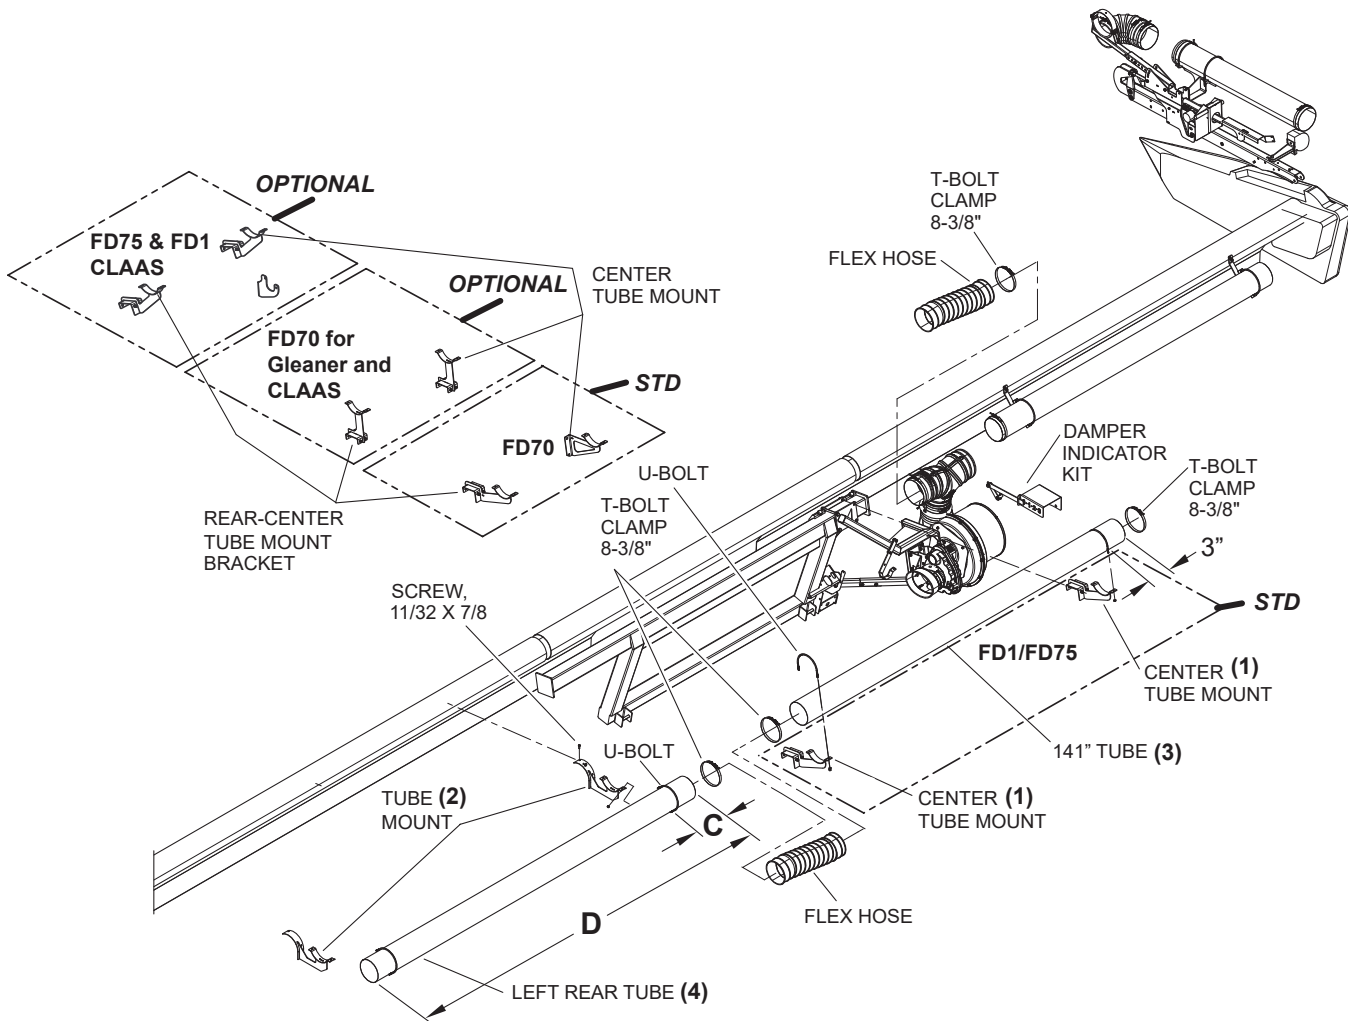

Figure 62: Left hand tube clamp locations
11. Set the left rear tube **(4)** on the tube mounts **(2)** and secure each end with a U-bolt and two 5/16" nuts and washers. Position as shown (Figure 62).